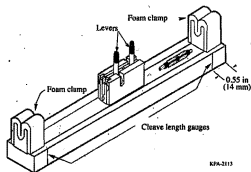

Figure 3
**3.1** Position the tool with the label on your left. Place both levers of the assembly tool in their vertical position (Figure 3).